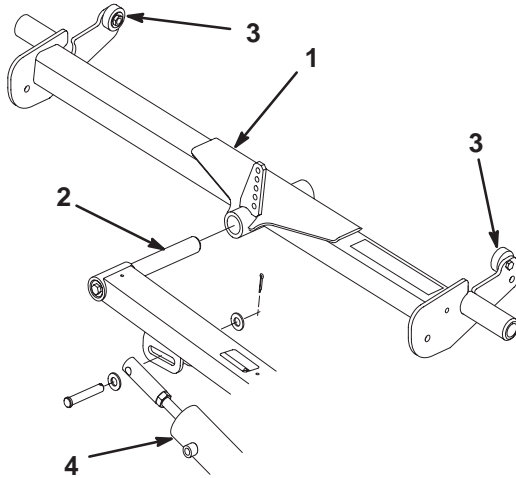

Figure 4
1. Slide the rear carrier frame onto the rear lift arm pivot rod (Fig. 4). **Do not** install the carrier frame to the cutting unit at this time.
3. Press down on one end of the carrier frame until the up stop on the opposite end contacts the underside of the foot step (Fig. 4). The distance between the up stop and the underside of the foot step, on the end pressed down, should be approximately 1/4 in. (6 mm). If the distance is not 1/4 in. (6 mm), an adjustment to the lift cylinder is required. If the distance is correct, remove the carrier frame and proceed with the setup instructions.
- A. Remove the clevis pin securing the rod end of the lift cylinder to the lift arm (Fig. 4).
- D. Tighten the hex nut and connect the cylinder rod end to the lift arm (Fig. 4).